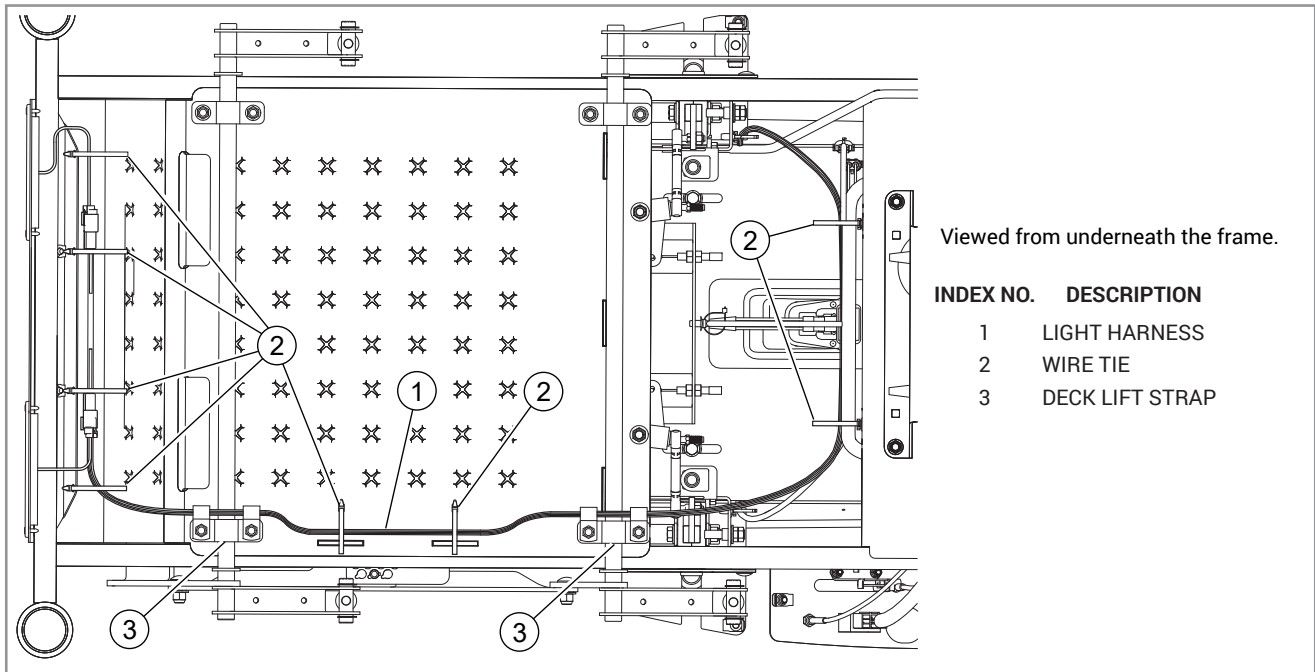

FIG. 8
15. Adjust the light harness to avoid moving components or being pinched. Tighten the wire ties and deck lift strap hardware as shown. FIG. 8